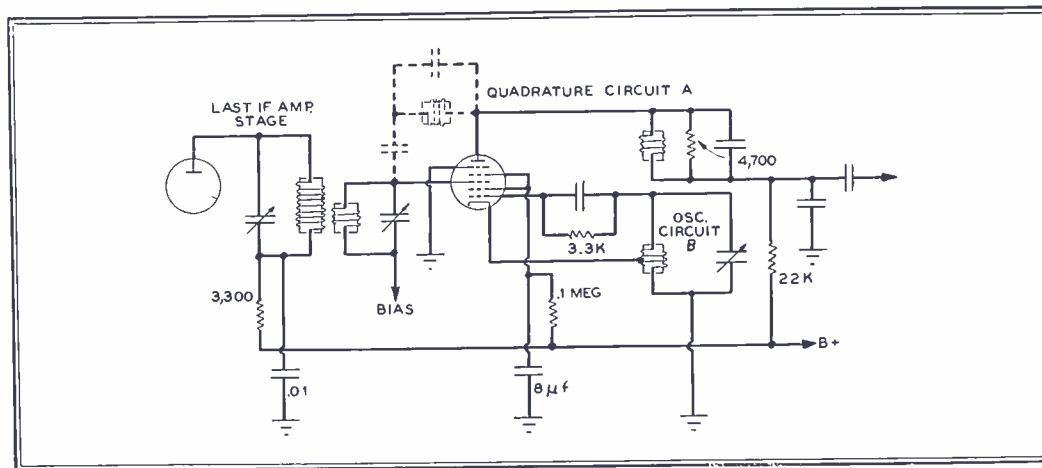
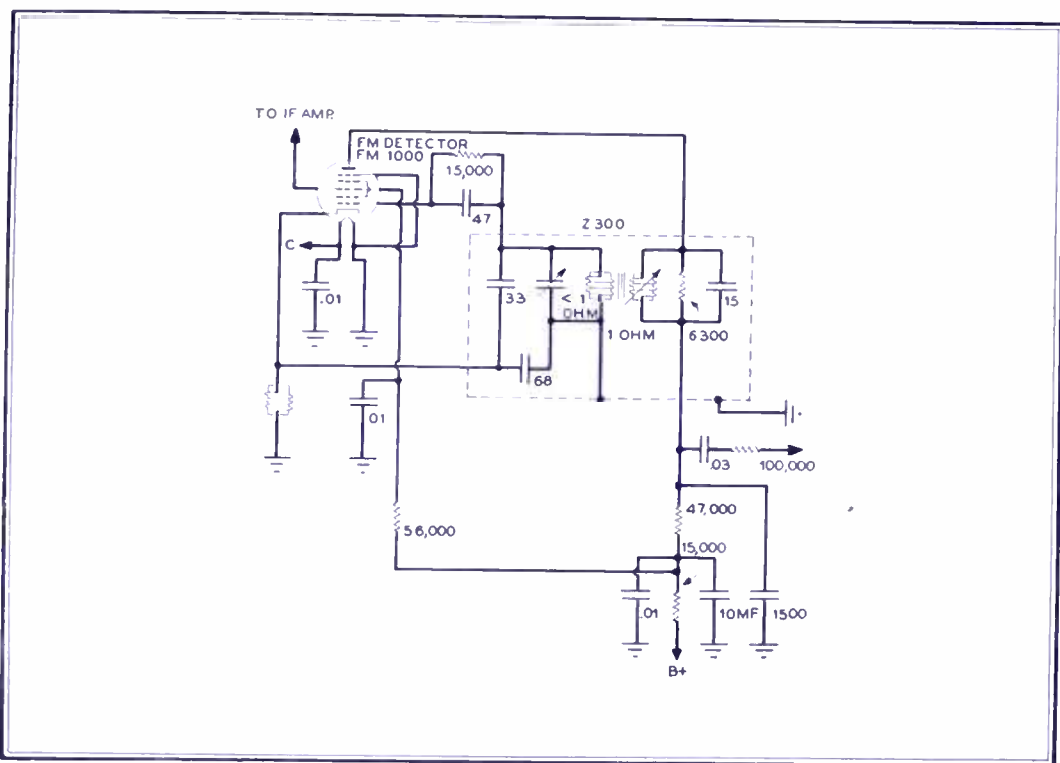

FIG. 1. ELEMENTARY CIRCUIT OF THE PHILCO SINGLE-STAGE FM DETECTOR
FIG. 4. FM DETECTOR CIRCUIT AS IT IS ARRANGED IN THE PHILCO MODEL 1213 SET
**Analysis of Single-Stage Detector** ★ Fig. 1 is a circuit diagram of the Philco FM detector. Essentially the circuit comprises the heptode and two tuned circuits reactively coupled. With the input signal coming from the final IF amplifier stage and
ities further, the receiver designer may wish to use the neutralizing circuit shown dotted in Fig. 1, which consists of a blocking condenser in series with a nearly self-resonant choke. Actual field tests by Philco engineers indicate that this neutralizing circuit is not noticeably better, since the unneutralized circuit has practically no response to AM signals. Hence it fulfills both the second requirement for an ideal FM detector, and also the dictates of mass production manufacturing economy. Fig. 4 shows the circuit diagram of the FM detector circuit of the Philco 1213 receiver.
Of importance to the motion of electrons near the ends of the interaction space, and thus to the electron leakage, are the configurations of the DC electric and magnetic fields there. These depend upon the geometry of the cathode ends and surrounding walls and of the magnetic pole pieces. The electrons are largely confined to the interaction space by the axial force, directed toward the center of the interaction space, produced by the non-uniformities in the electric and/or the magnetic fields. For uniform magnetic field, the desired focusing action on the electrons may be achieved by disks at cathode potential which are mounted at each of the cathode and extend beyond the cathode surface over the ends of the interaction space as may be seen in Fig. 1. In other cases, distortion of the magnetic field in the end spaces of the magnetron, in addition to cathode end disks, has been used to produce the same effect.